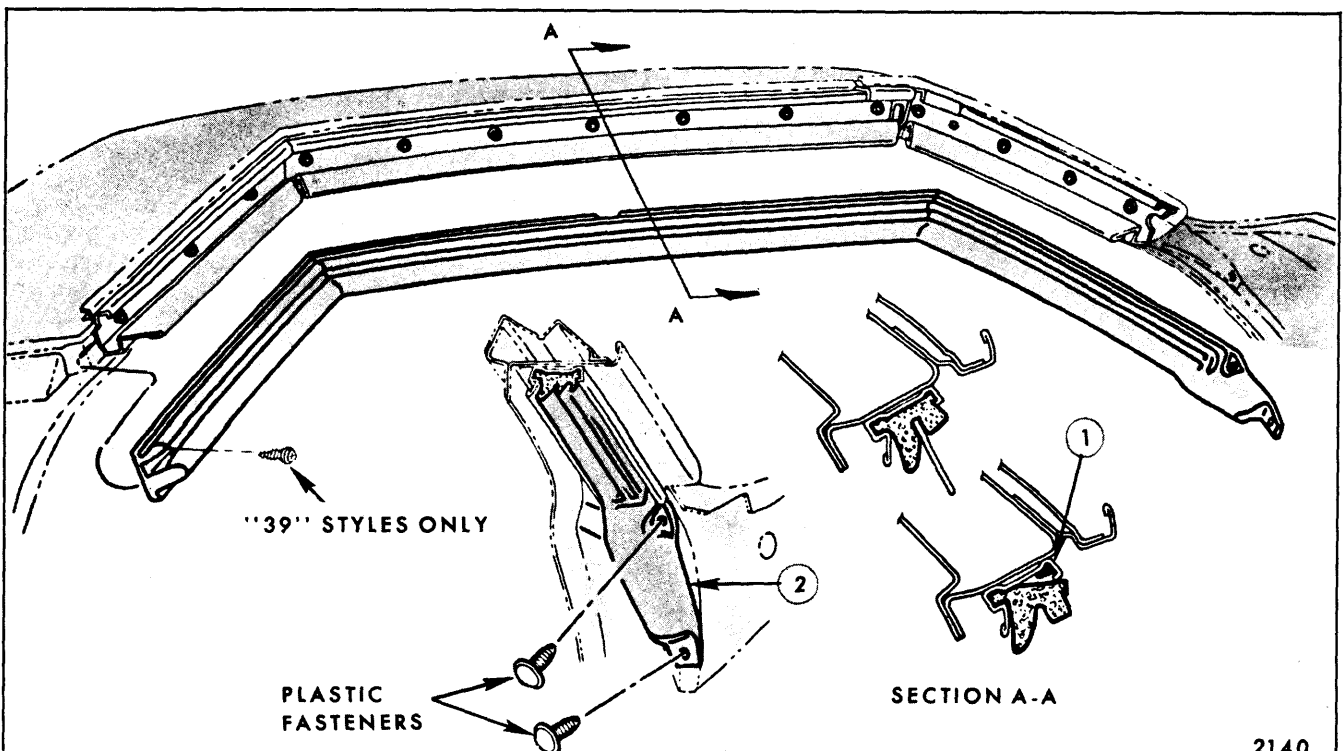

Fig. 6-8—Side Roof Rail Weatherstrip
1. Remove plastic fasteners at front of side roof rail weatherstrip (Fig. 6-8 is typical of all styles at front hinge pillar).
1. Remove plastic fasteners at front of weatherstrip similar to those shown in Figure 6-8.
1. At front of weatherstrip, disengage plastic fasteners from front body hinge pillar similar to those shown in Figure 6-8.
5. Apply a bead of black weatherstrip adhesive to outboard flange of weatherstrip retainer ("1", Figs. 6-8 and 6-10). Extend adhesive down front body hinge pillar to seal lower front end of weatherstrip that is retained with plastic fasteners.
**NOTE:** For Steps 5 & 6, Figures 6-8 and 6-10 are to be considered as typical for all hardtop styles.
install plastic fasteners. Then, using a flat-bladed tool, begin engaging weatherstrip with retainer as shown in Section "A-A", Figs. 6-8 and 6-10. Engage inboard lip of weatherstrip first, then, outboard lip.